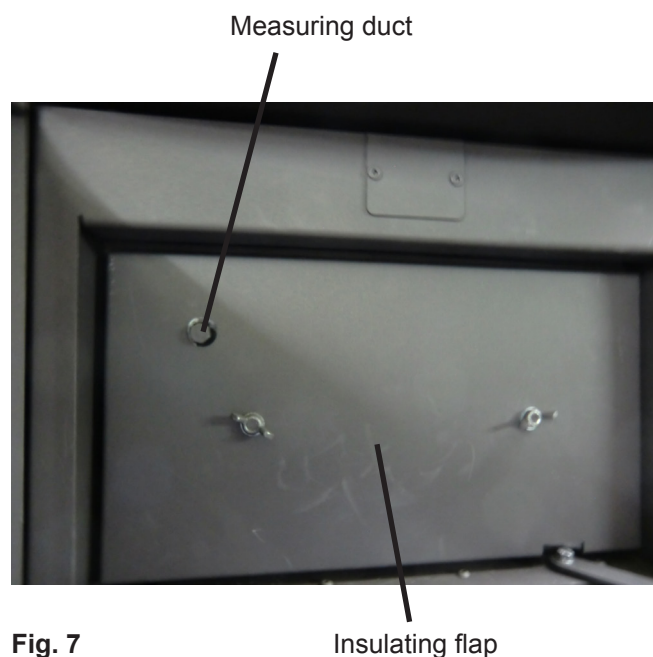

Fig. 7
- Unscrew the insulating flap above the combustion chamber opening (2 wing nut, Fig. 7).